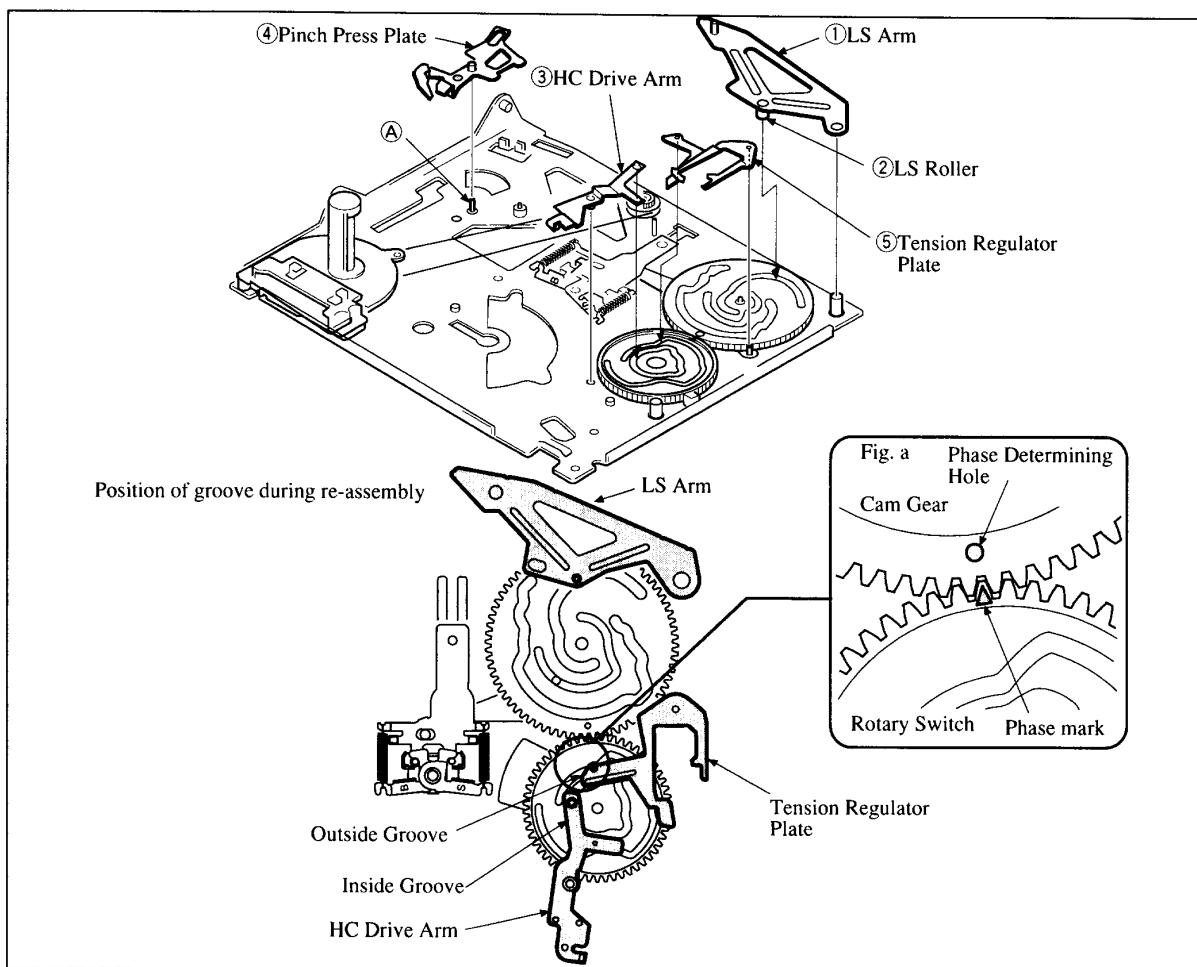

Fig. 19
- 1) Before attaching the Gear A **⑥**, coat the Retainer Shaft **E** with grease SG-055G (Ref. No. J-13).
- 3) The HC Drive Arm is easy to drop. Confirm that it is attached referring to Fig. 19.
**3-13. LS Arm, HC Drive Arm, Pinch Press Plate, Tension Regulator Plate (Refer to Fig. 19)**